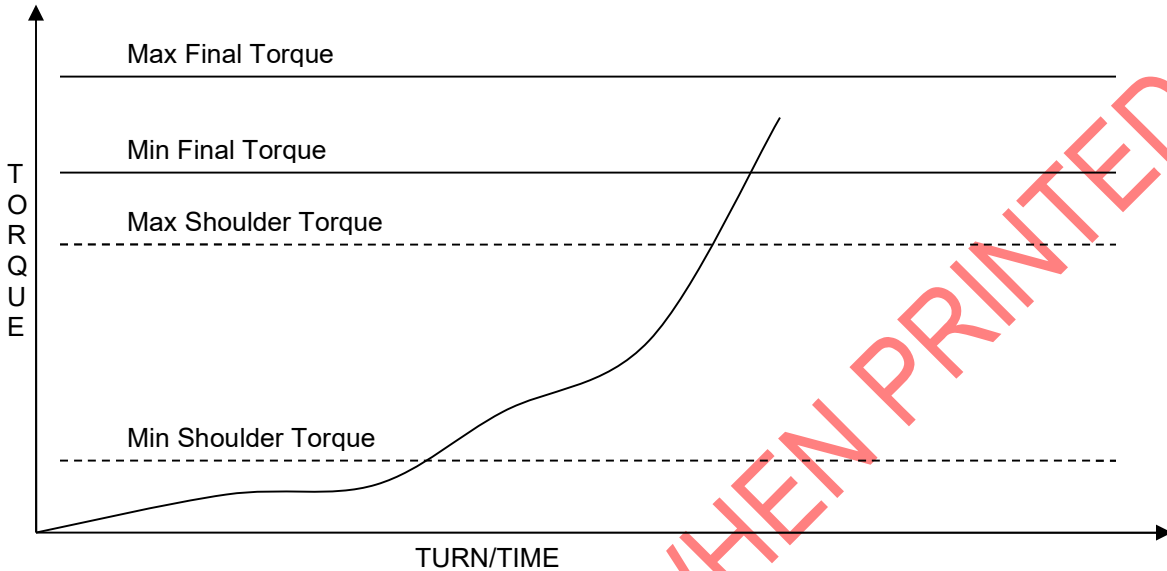

Figure 3: No visible shoulder (Breakout and evaluate)
- 8.1.2.2.** No distinct and visible shoulder (figure 3). A connection with this signature shall be broken out and inspected as outlined in section 7.1.3.